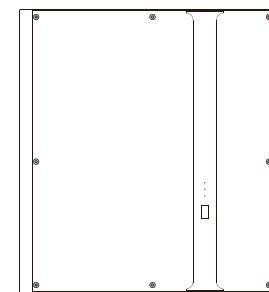

Figure 2.17 Re-cover the Upper Cover Plate
Step 12 The wiring is completed, please re-cover the B3 upper cover plate and use the T20 double offset ring spanner to tightly lock the upper cover screw. The suggested torque is 2.8 N.m±10%. Then install the white plug, as shown in Figure 2.17.